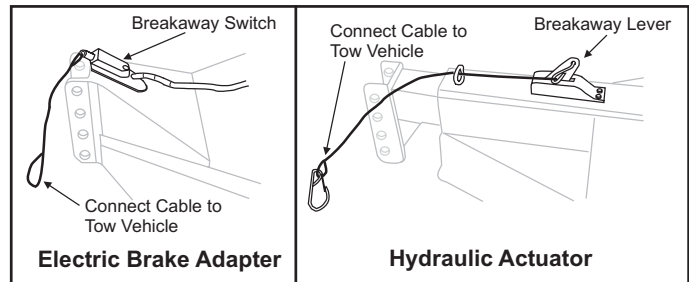

Figure 19. Breakaway Brake Systems
- Connect the pull pin cable to the tow vehicle so that the pull pin will be pulled out before all of the slack in the safety chains is taken up (see Figure 19). Do **not** connect the pull pin cable to a safety chain or to the hitch or hitch assembly. This would keep the breakaway brake system from operating when it is needed.